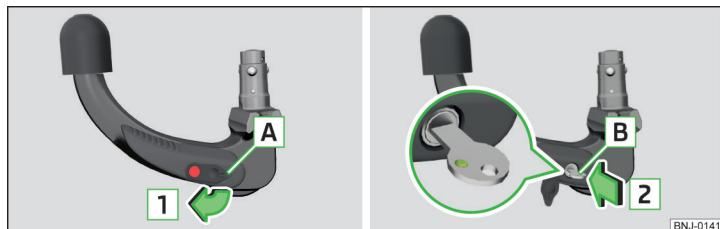

Fig. 151 Remove cap from the lock / insert key into the lock
- › Remove the cover **A** from the lock in the direction of the arrow **1** » Fig. 151.